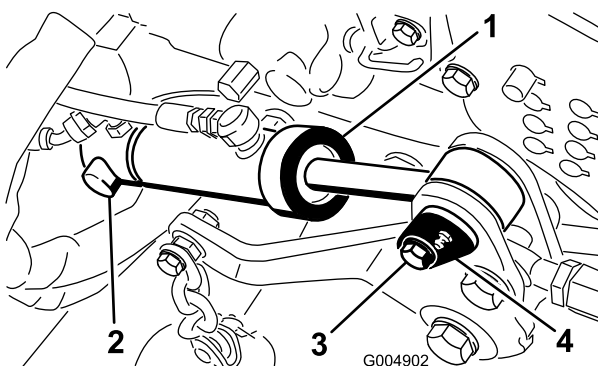
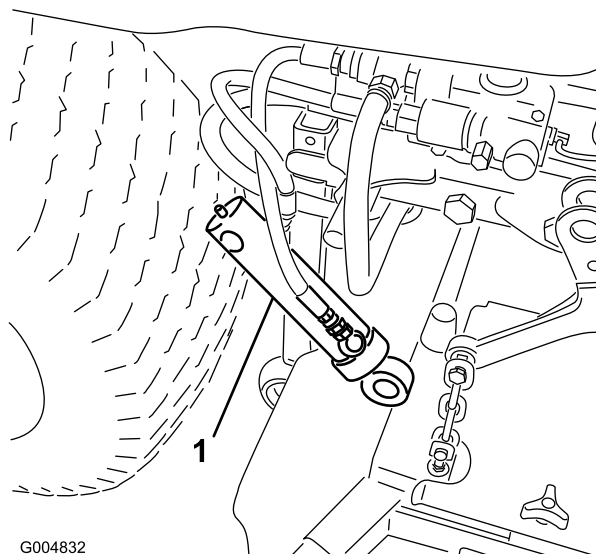

Figure 36
Figure 37
5. Remove the retaining ring securing the rear of the deck lift cylinder to the pivot pin (Figure 36).
6. Remove the screw securing the front cylinder pivot pin to the mower frame (Figure 36). Remove the cable tie securing the pressure and tank hoses.
7. Remove the front pivot pin and slide the cylinder off the rear pin Figure 36 Let the cylinder hang out of the way on the hoses (Figure 37).